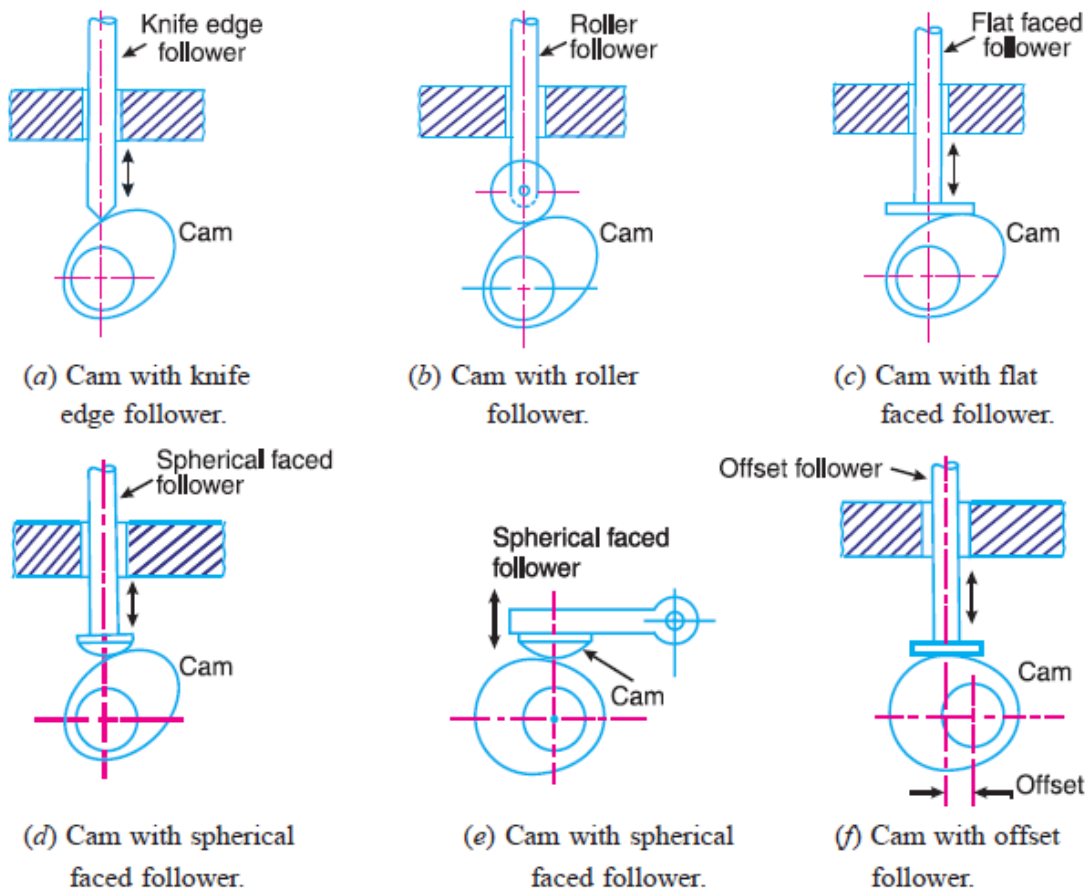

Fig.1. Classification of followers.
(a) Reciprocating or translating follower. When the follower reciprocates in guides as the cam rotates uniformly, it is known as reciprocating or translating follower. The followers as shown in Fig.1 (a) to (d) are all reciprocating or translating followers.
(b) Oscillating or rotating follower. When the uniform rotary motion of the cam is converted into predetermined oscillatory motion of the follower, it is called oscillating or rotating follower. The follower, as shown in Fig.1 (e), is an oscillating or rotating follower.
(a) Radial follower. When the motion of the follower is along an axis passing through the centre of the cam, it is known as radial follower. The followers, as shown in Fig. 1 (a) to (e), are all radial followers.
(b) Off-set follower. When the motion of the follower is along an axis away from the axis of the cam centre, it is called off-set follower. The follower, as shown in Fig.1 (f), is an off-set follower.
1. Radial or disc cam. In radial cams, the follower reciprocates or oscillates in a direction perpendicular to the cam axis. The cams as shown in Fig.1 are all radial cams.